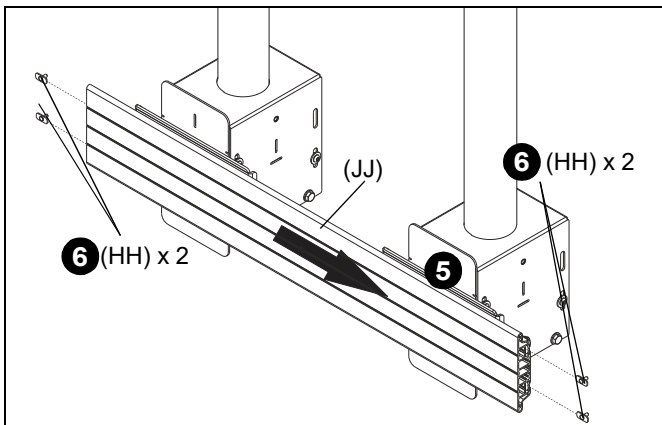

Figure 5
- Slide X-large rail (JJ) onto second assembly (J) attached to column. (See Figure 5)
- Slide two wind shield connectors (HH) into back grooves on X-large rail (JJ) on both sides. (See Figure 5)